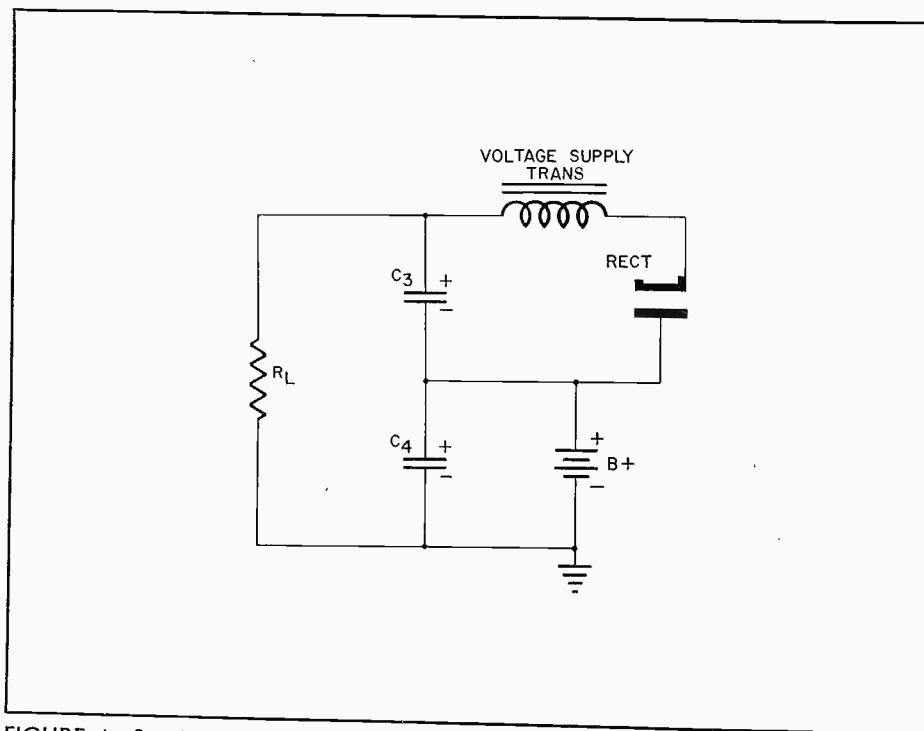

FIGURE 4—Simulated Boost Circuit.
Sylvania feels that the Application Quality tests are very important since mere reliance on the data from static test conditions, Figure 4, is no assurance of satisfactory tube performance in actual applications. Once the initial operating capabilities of the tubes have been ascertained, information as to how they will perform
**FIGURE 4—PORTION OF TEST set up for checking major electrical characteristics of horizontal deflection tubes.** Although very necessary in determining quality level, Sylvania feels that this test alone does not assure satisfactory performance in actual application.
To understand how the damping diode absorbs power from the negative pulse voltage, let us look at the simulated circuit shown in Figure 4 and operate a rectifier tube with the